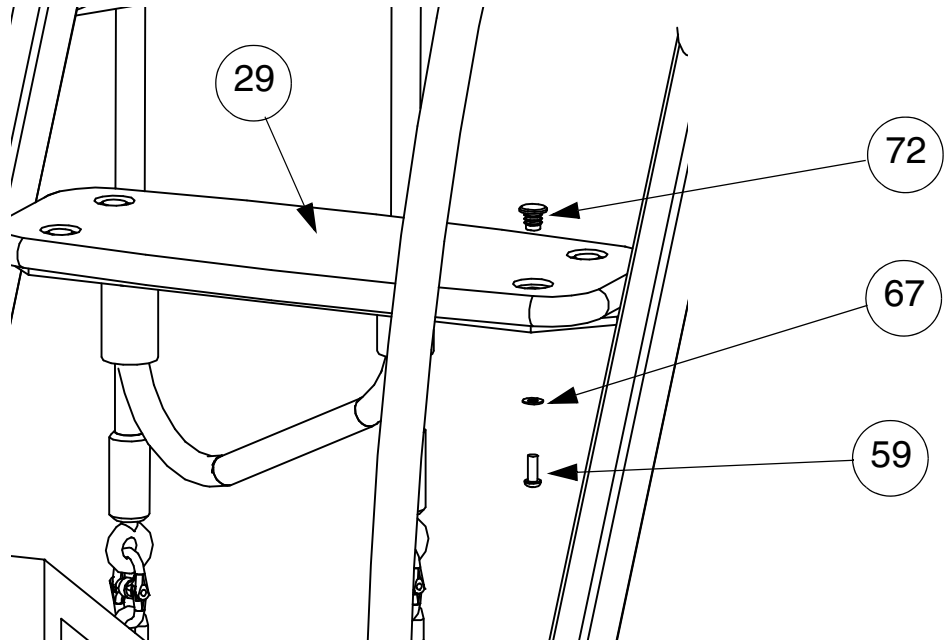

FIG.57
63) Assemble 3 off Step Access Step (item 29) in position as shown on the Step Access (item 6) using 12 off M6 x 16 Resistorx bolts (item 59), Dynafix Inserts (item 72) and M6 Washers (item 67). See FIG.57.